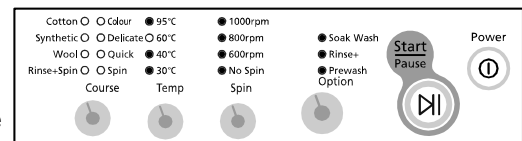

fig. 4
- Display shows such as fig.4.
- If only one item of clothing needs washing, such as a bathrobe or jeans, the final spin result might be unsatisfactory and an error message will be shown in the display panel such as fig 4..